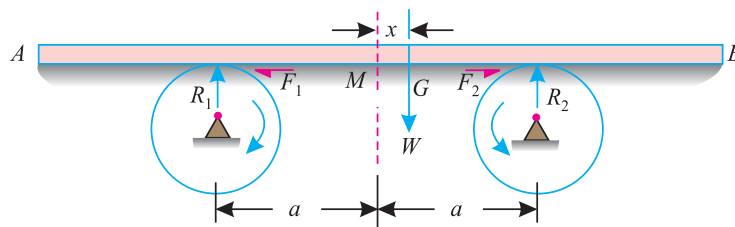

Fig. 23.6.
**Solution.** Let the weight  $W$  of the bar AB acting at its centre of gravity  $G$  be at a distance  $x$  from its mid point as  $M$  as shown in Fig. 23.6.